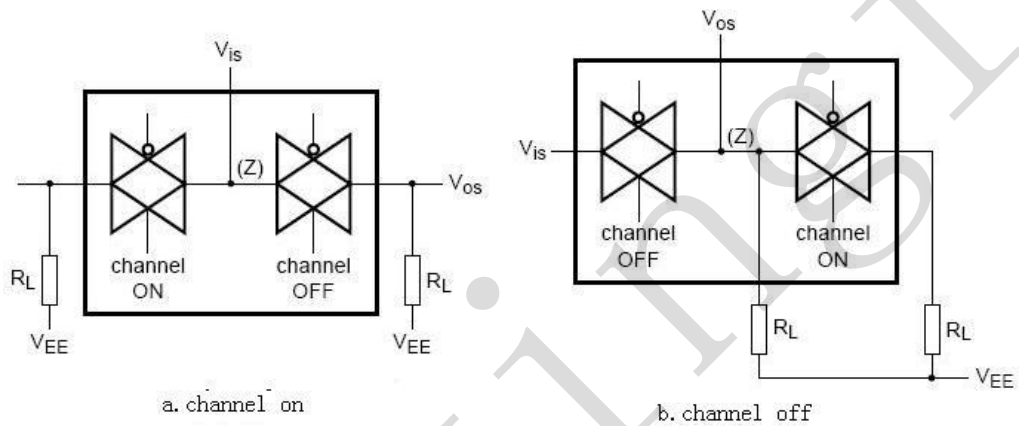

Figure 12. Inter channel Crosstalk
- [2]  $R_L=1k\Omega$ ;  $20\log V_{os}/V_{is}=-50dB$ , see Figure 12.